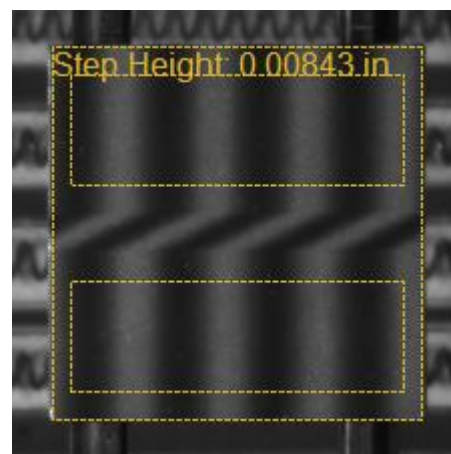

Figure 2.34 Fringe Value ROI on cal block
2. Adjust the ROI such that the outside square approximately outlines the calibration block (**Figure 2.34**). Exact alignment is not required because measurements are made only within the inner two rectangles, which are inset from the outside boundary.